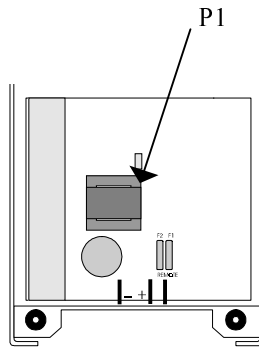

Figure 6.
- The adjustment point, potentiometer P1, is to be found on the printed circuit board in the Atlas as shown in figure 6.